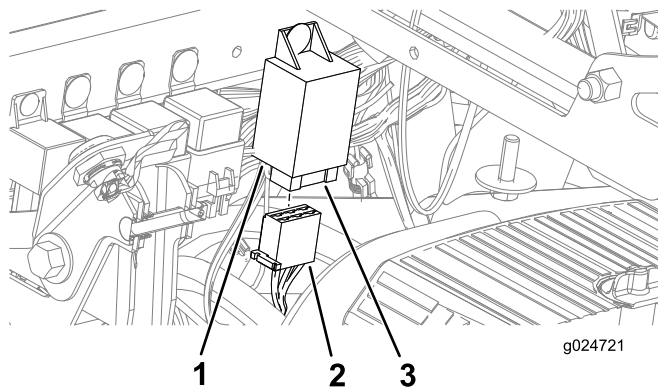

Figure 34
- 1. Route the harness leg with the 6-socket connector to the 6-blade connector of the flasher module (Figure 34).